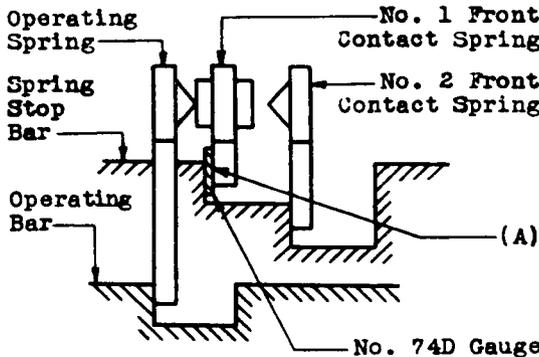

Fig. 24 - Contact Follow -
(1) Operating Spring and No. 1 Front Contact Spring - Fig. 24 (A): With the operator bar in the neutral position, the .011" blade of the No. 74D gauge inserted between the tang of the No. 1 front contact spring and the side of the associated notch in the spring stop bar nearer the cam roller, will not cause the contacts to break.